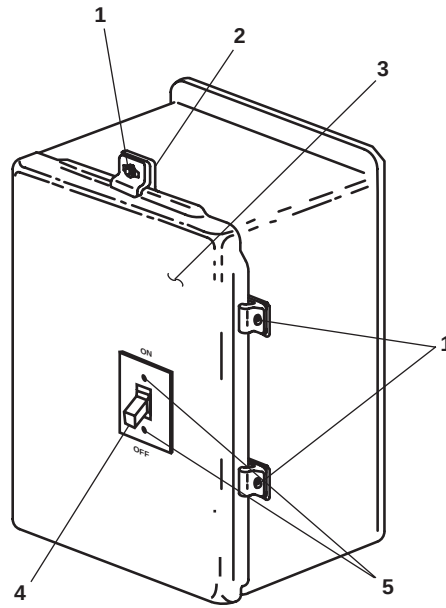

Figure 1. Motor Controller Type 5 (Typical)
1. Loosen the screws (figure 1, item 1) until the clamps (figure 1, item 2) clear the lip of the door (figure 1, item 3).
2. Open the motor controller door (figure 1, item 3).
3. Use a multimeter to check for voltage at the motor starter (figure 1, item 4). If voltage is present, ensure that the proper circuit breaker has been set to OFF, locked out, and tagged out (FM 55-502). If no voltage is present, continue with the procedure.
4. Label and disconnect the electrical wiring attached to the motor starter (figure 1, item 4).
5. Remove the screws (figure 1, item 5) holding the motor starter (figure 1, item 4) to the motor controller door (figure 1, item 3).
6. Remove the motor starter (figure 1, item 4) from the motor controller.
1. Install the motor starter (figure 1, item 4) on the motor controller door (figure 1, item 3) and secure it with the screws (figure 1, item 5).
2. Connect the electrical wiring to the motor starter (figure 1, item 4) using the labels from step 4 of Removal as a guide. Remove the labels.
3. Close the motor controller door (figure 1, item 3) and rotate the clamp (figure 1, item 2) until it is over the lip of the door.
4. Secure the motor controller door (figure 1, item 3) by tightening the door screws (figure 1, item 1).